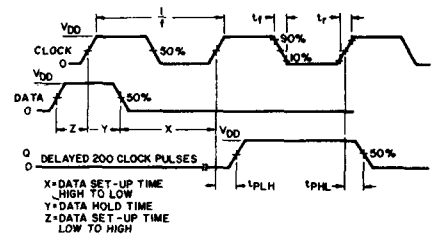

Fig. 3 — Timing diagram—single-phase clock.
Single-Phase-Clock Operation; Clock Mode (CM) = Low; $3\text{ V} < V_{DD} \leq 10\text{ V}$ (See Figure 3)